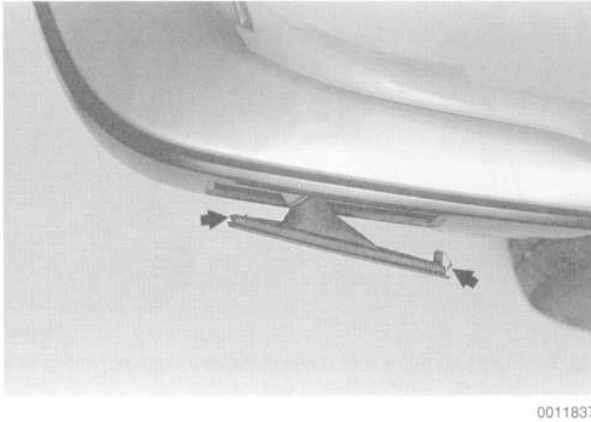

Fig. 9. Side marker lens shown removed from bumper. **Arrows** indicate lens retaining tabs.
1. Carefully pry end of side marker away from bumper and remove. See Fig. 9.
- 1. Carefully pry end of side marker away from bumper and remove. See Fig. 9, given earlier.